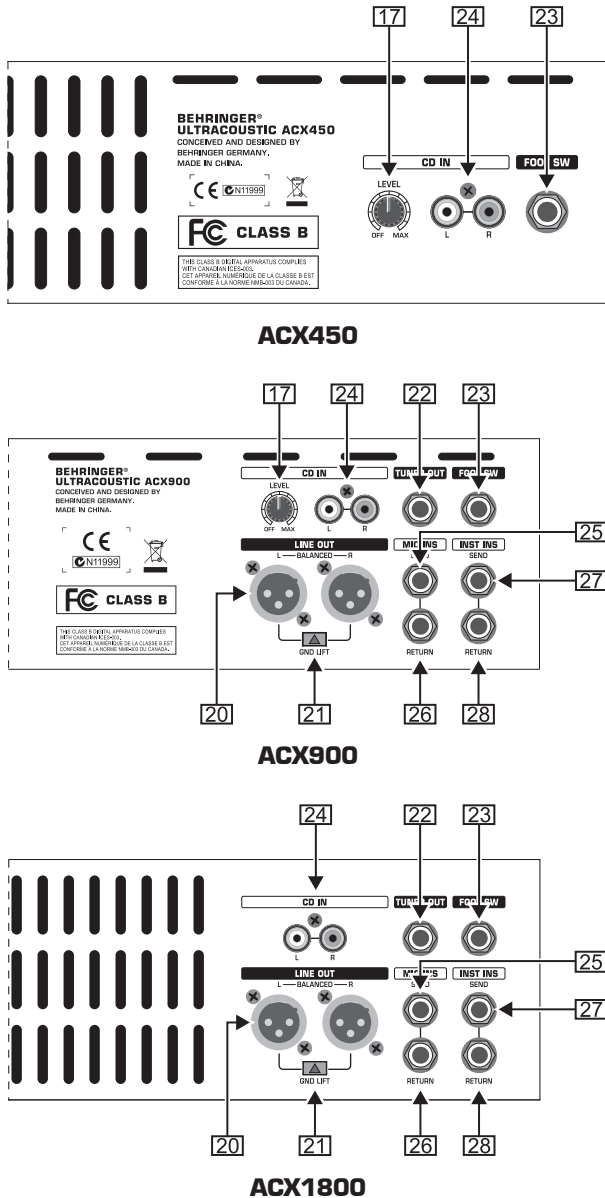

Fig. 2.2: Rear panel connectors
- 17 The **ULTRACOUSTIC** is equipped with a CD input at the rear panel. Use the **CD LEVEL** controller in the master section (only in ACX1800) to adjust the volume of the signal connected to the CD jack. In the ACX900 and ACX450, this controller is located on the rear panel (see fig. 2.2).